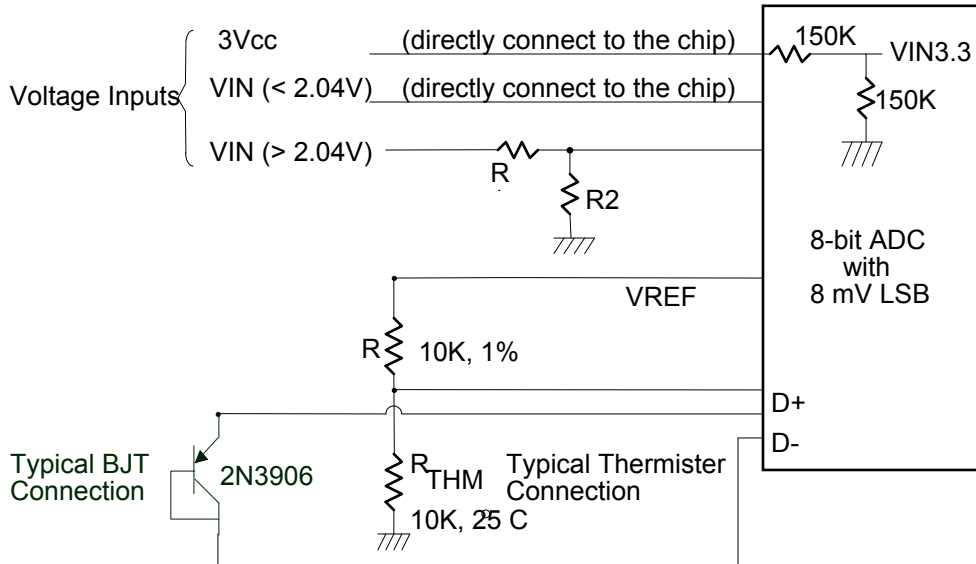

Fig 7-1
For the 8-bit ADC has the 8mv LSB, the maximum input voltage of the analog pin is 2.048V. Therefore the voltage under 2.048V (ex:1.5V) can be directly connected to these analog inputs. The voltage higher than 2.048V should be reduced by a factor with external resistors so as to obtain the input range. Only 3Vcc is an exception for it is main power of the F81867. Therefore 3Vcc can directly connect to this chip's power pin and need no external resistors. There are two functions in this pin with 3.3V. The first function is to supply internal analog power of the F81867 and the second function is that voltage with 3.3V is connected to internal serial resistors to monitor the +3.3V voltage. The internal serial resistors are two 150K Ω , so that the internal reduced voltage is half of +3.3V (See figure 7-1).
(1) Monitor Temperature from “thermistor”
The F81867 can connect two thermistors to measure environment temperature or remote temperature. The specification of thermistor should be considered to (1) β value is 3435K (2) resistor value is $10K\Omega$ at $25^{\circ}C$. In the Figure 7-1, the thermistor is connected by a serial resistor with $10K\Omega$, then connected to VREF.
(2) Monitor Temperature from “thermal diode”
Also, if the CPU, GPU or external circuits provide thermal diode for temperature measurement, the F81867 is capable to these situations. The build-in reference table is for PNP 2N3906 transistor. In the Figure 7-1, the transistor is directly connected into temperature pins.